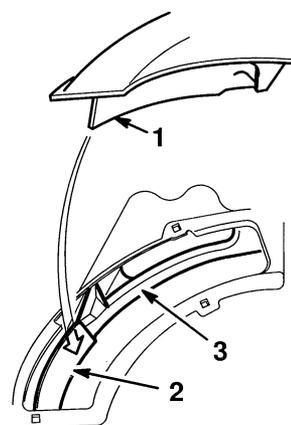

Figure 46
2. Place front corner of mulch plate baffle into deck opening. Rotate mulch plate counterclockwise and push down into deck opening (Fig. 46).